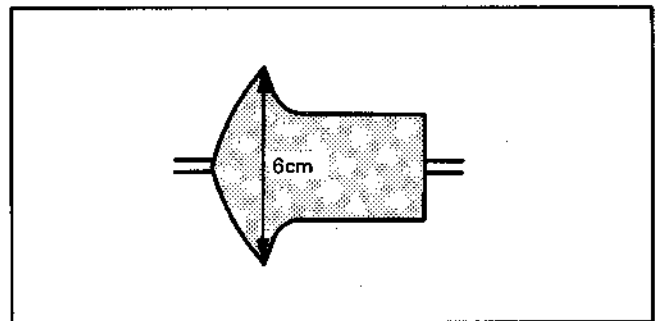
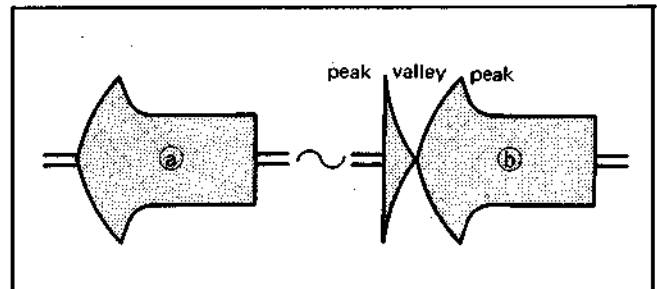

Fig. 1-8 No. 0 Guide Waveform
Fig. 1-9 Fluctuation
- 2) While observing the RF output waveform, turn the \ominus screw at the top of the No. 0 guide slowly to raise and lower the guide (after 30° turn, observe the waveform for 5 – 10 seconds), so that the RF output waveform entrance side is as shown in Fig. 1-8.
When No. 0 guide is raised, the number of peaks and valleys increases as shown in Fig. 1-9 (b), and decreases when it is lowered. When the waveform fluctuates from (a) to (b) as shown in Fig. 1-9, adjust No. 0 guide so that a waveform becomes like the waveform in Fig. 1-8.